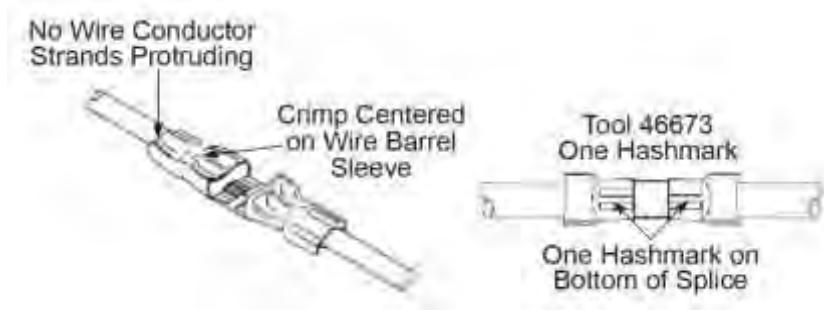

Figure 218
16. Inspect the crimp. Refer to Figure 218 for a properly crimped terminal and splice. Check the insulation grip on the crimped terminal or splice.